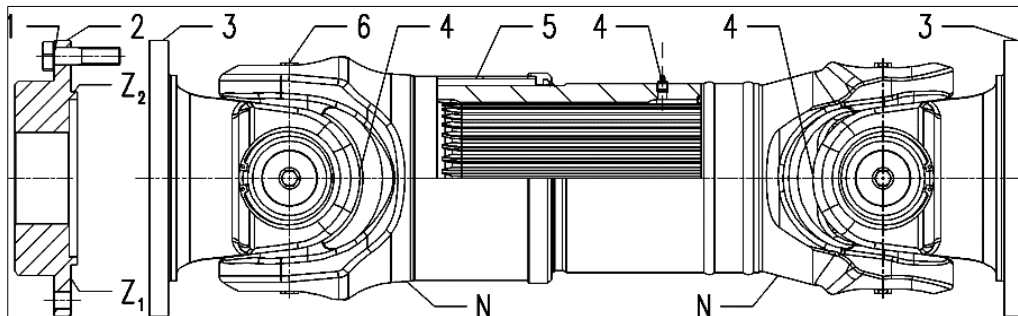

Abb. 6.3: Universal joint shaft
- ⇒ During assembly of the universal joint shaft, make sure that the zero markings (N) are on a single plane (→ Fig. 6.3).